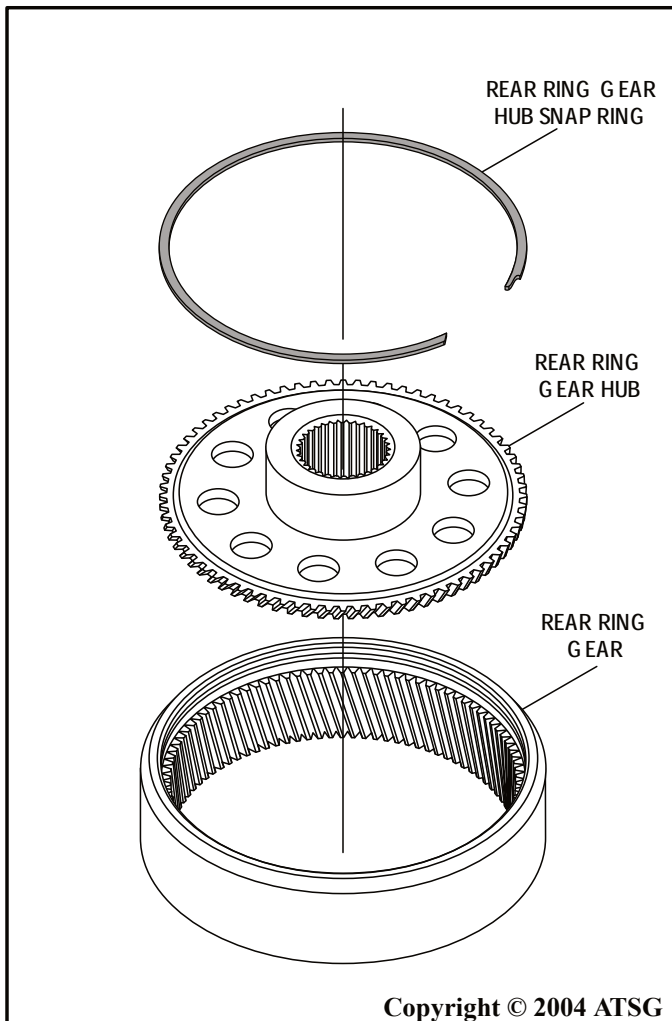

Figure 157
9. Assemble the ring gear hub to the ring gear and install the snap ring, as shown in Figure 157.